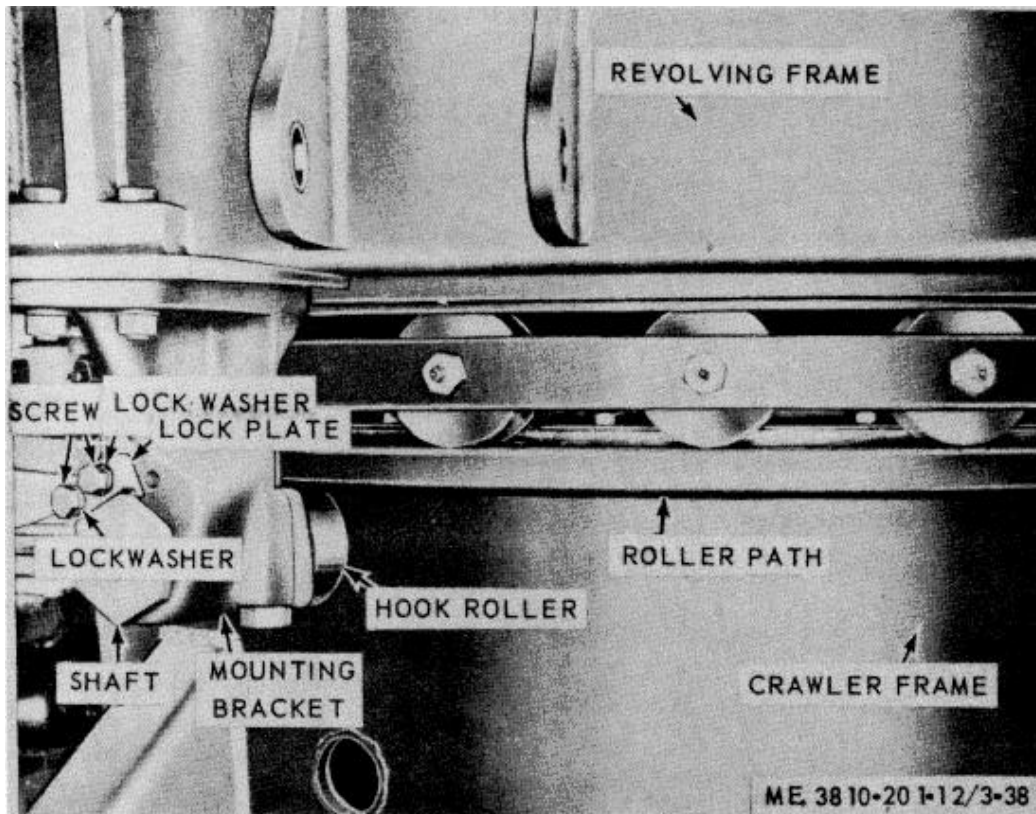

Figure 3-38. Hook roller adjustment points
b. Remove screws, lockwashers and keeper plate (fig. 3-38), then rotate eccentric shafts until both rollers are snug against bottom of roller path. A maximum of 1/16 inch clearance is allowed between hook rollers and roller path. When adjustment is correct, install keeper plate and secure with lockwashers and screws.